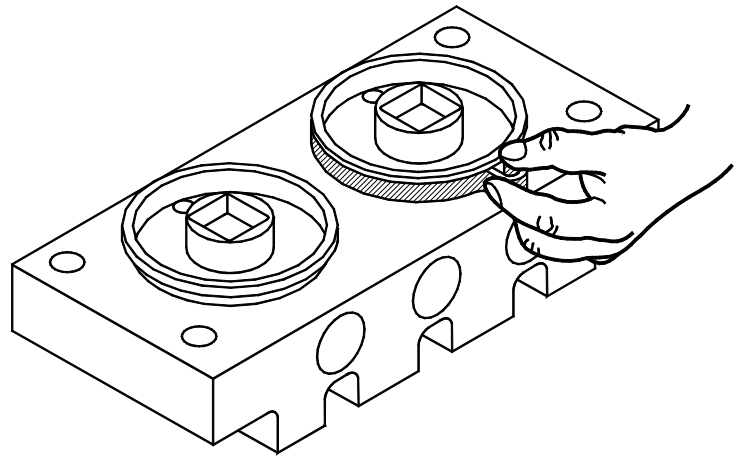

Fig. 8
- c. Remove both front plate gaskets by placing your thumb and forefinger as shown in Fig. 8 and squeeze until a loop is formed. Then roll each gasket out of its groove.